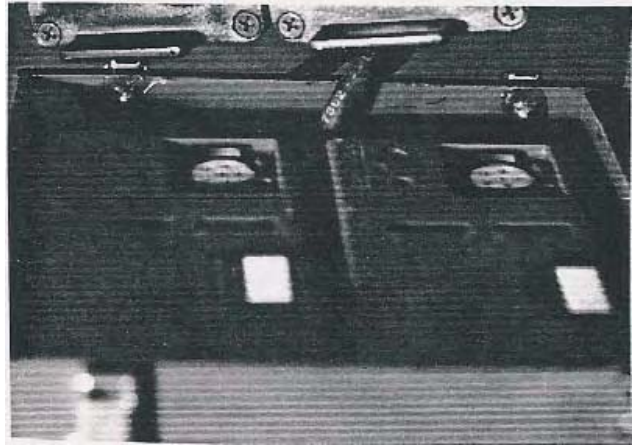

Figure 15. MCH-100 Battery Installation
- a. Install two batteries into the foam slots provided inside the power pack. The connector plug on both batteries must be on the top. Figure 15.